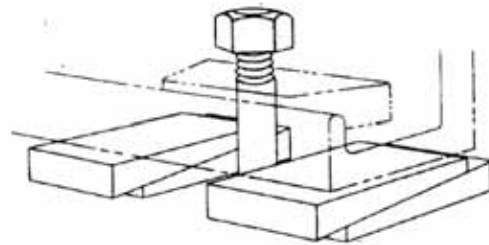
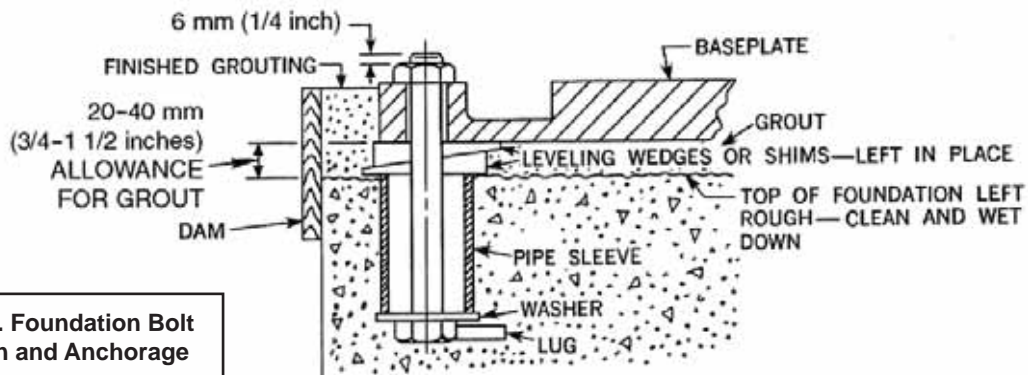

Figure 2. Adjusting Wedges for Mounting
Figure 1. Foundation Bolt Location and Anchorage
2. Place pumping unit on foundation with bolts, of the proper size, imbedded in the concrete. A pipe sleeve, about 2½" diameters larger than the bolt, should be used to allow for final positioning of the bolts. See Figure 1. Level sub-base, to give a space of about 3/4" for grouting, using rectangular metal blocks and shims, or wedges having a small taper as shown in Figure 2.